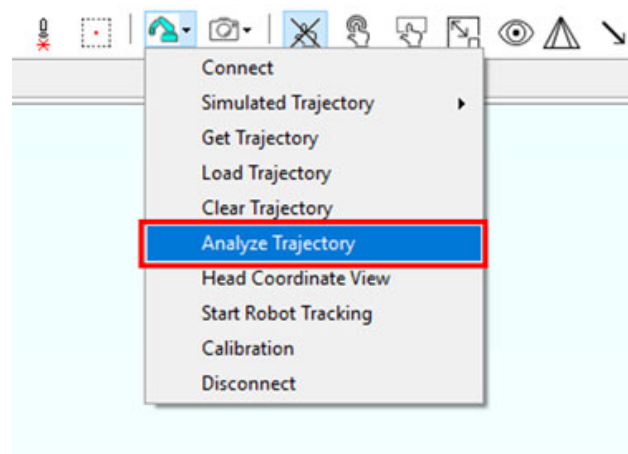

Figure 308: Analyze Trajectory
2. Select "Analyze Trajectory." See Figure 308 (below).